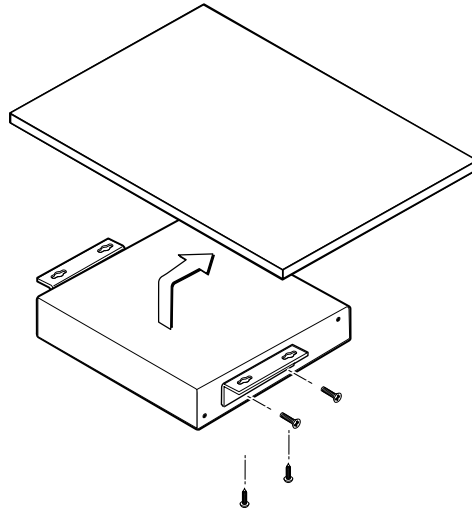

Figure 4. Mounting the MMX 32 VGA MTP Under Furniture
2. Attach the mounting brackets to the MMX with the provided machine screws (figure 4).